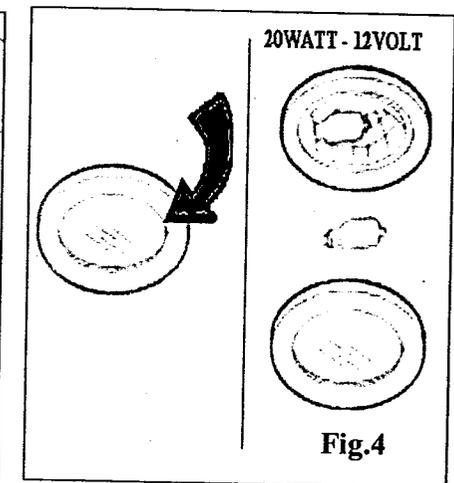

Fig.4
**Replacing the lamp - Fig. 4**